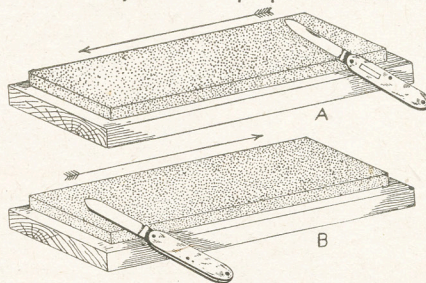

Fig. 3—Sharpening the blade
sharpening the knife, which is done in the following manner. A piece of oil-stone is best for getting a good edge on the knife. Smear a little oil on the surface of the stone, and with the blade slightly tilted, draw it over the stone from one end to the other, as indicated in Fig. 3 (A), in the direction of the arrow.